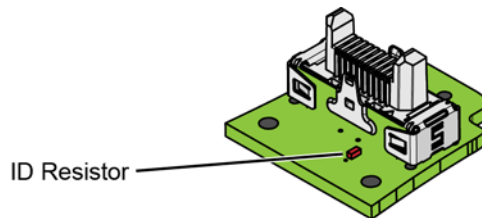

Figure 27 Location of ID Resistor (R2)
- 4 On the reverse side of the PC board, locate ID resistor, **R2**, as shown in Figure 27.